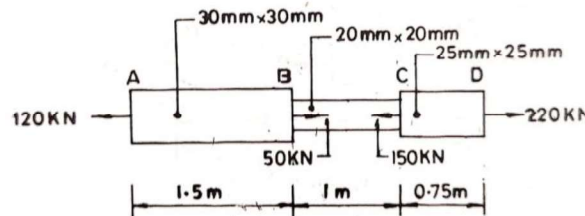

Fig. 1
- b) A member ABCD is subjected to loading system as shown in Fig. 1. Determine the net change of the length. Take $E = 2 \times 10^5 \text{ N/mm}^2$. [5]